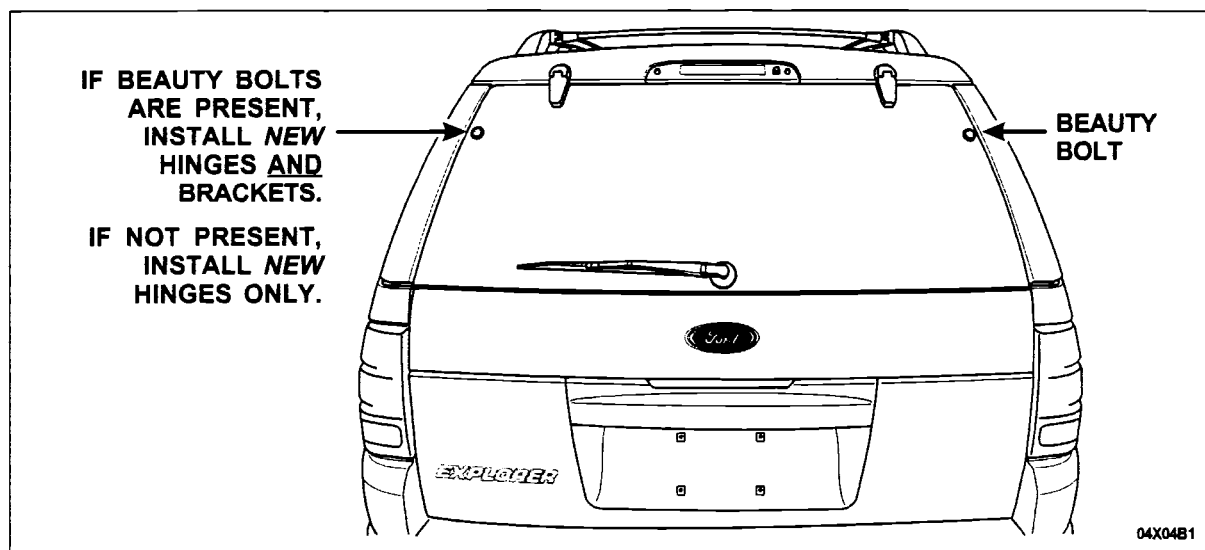

FIGURE 2
- Early 2002 models use ball stud brackets that are secured with beauty bolts, which pass through the glass (the head of the bolt is visible on the outside of the glass) and are bonded to the glass about 150 mm (6 inches) from the top of the glass. See Figure 2. If beauty bolts are present, both the liftgate ball stud brackets and hinges will be replaced. Perform **BOTH** the Liftgate Glass Hinge Replacement and the Ball Stud Bracket Replacement. Begin your repairs with **LIFTGATE GLASS HINGE REPLACEMENT**.